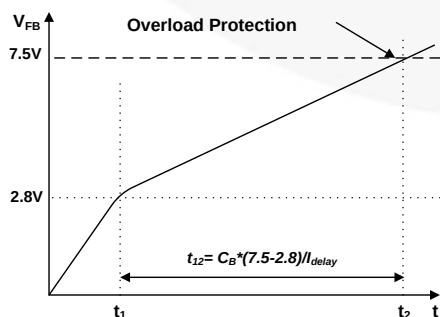

Figure 34. Overload Protection
**4.1 Overload Protection (OLP):** Overload is defined as the load current exceeding its normal level due to an unexpected abnormal event. In this situation, the protection circuit should trigger to protect the SMPS. However, even when the SMPS is in the normal operation, the over load protection circuit can be triggered during the load transition. To avoid this undesired operation, the overload protection circuit is designed to trigger after a specified time to determine whether it is a transient situation or an overload situation. Because of the pulse-by-pulse current limit capability, the maximum peak current through the SenseFET is limited, and therefore the maximum input power is restricted with a given input voltage. If the output consumes more than this maximum power, the output voltage ( $V_o$ ) decreases below the set voltage. This reduces the current through the opto-coupler LED, which also reduces the opto-coupler transistor current, thus increasing the feedback voltage ( $V_{fb}$ ). If  $V_{fb}$  exceeds 2.8 V,  $D_1$  is blocked, and the 5  $\mu$ A current source starts to charge  $C_B$  slowly up to  $V_{CC}$ . In this condition,  $V_{fb}$  continues increasing until it reaches 7.5 V, then the switching operation is terminated as shown in Figure 34. The delay for shutdown is the time required to charge  $C_B$  from 2.8 V to 7.5 V with 5  $\mu$ A. In general, a 20–50 ms delay is typical for most applications. OLP is implemented in auto restart mode.